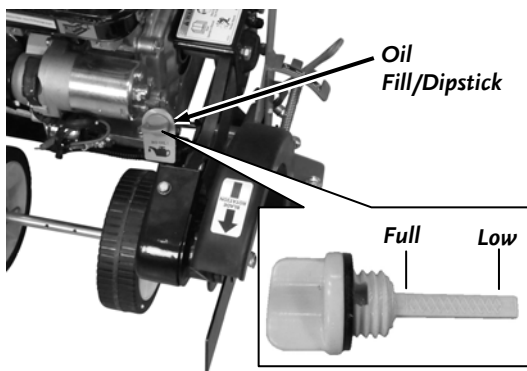

Figure 20
- Check the Dipstick (**Figure 20**) and continue adding a few ounces of oil at a time, rechecking the Dipstick until the oil reaches the fill mark. Be careful not to overfill.